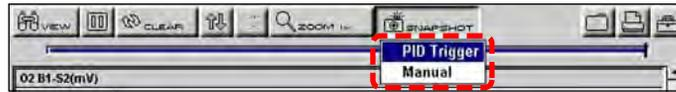

Figure 5-28 Sample armed triggering
2. Select from the dropdown menu (Figure 5-28):